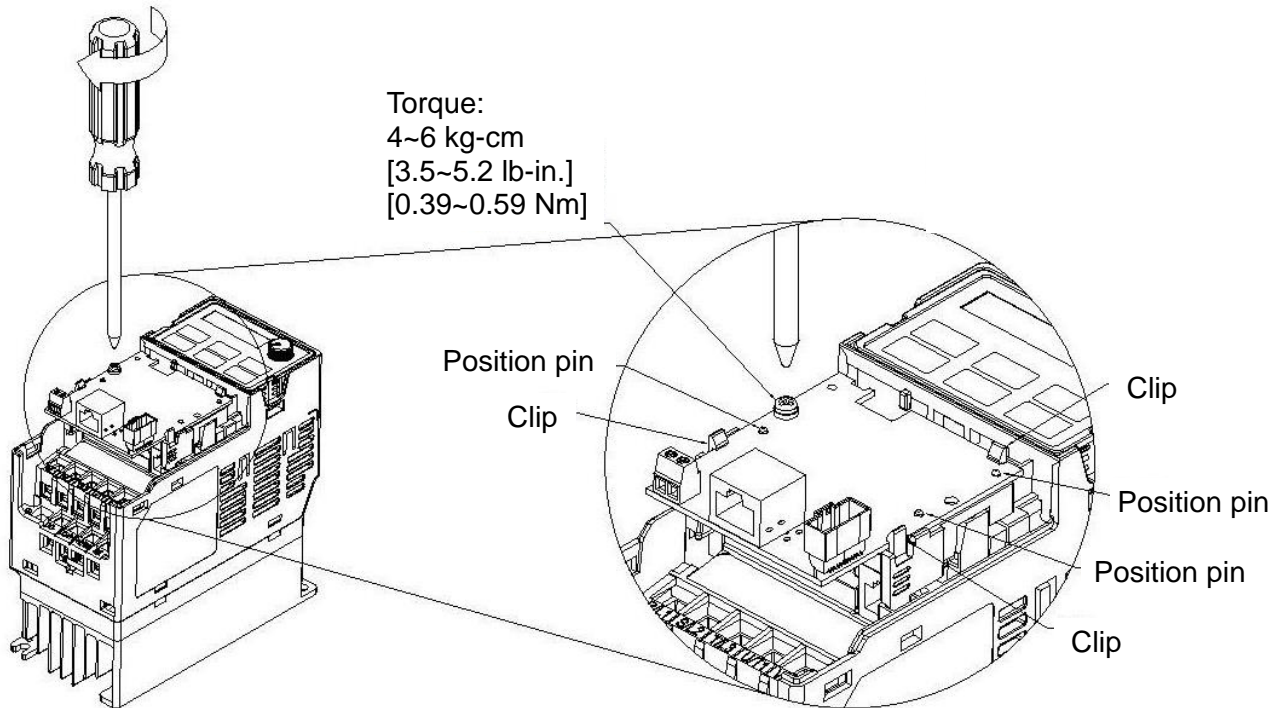

Fig. 8-3
5. Wiring after the option card fixed fitting is clipped with the holes (see **NOTE**). Fasten the screw to fix the option card before wiring (shown in Fig. 8-3). Torque: 4~6 kg-cm [3.5~5.2 lb-in.] / [0.39~0.59 Nm]. While the wiring is finished, the front cover cannot put it back on directly but needs to assembly the option card reversely. Please refer to the subsequent steps to complete the installation.